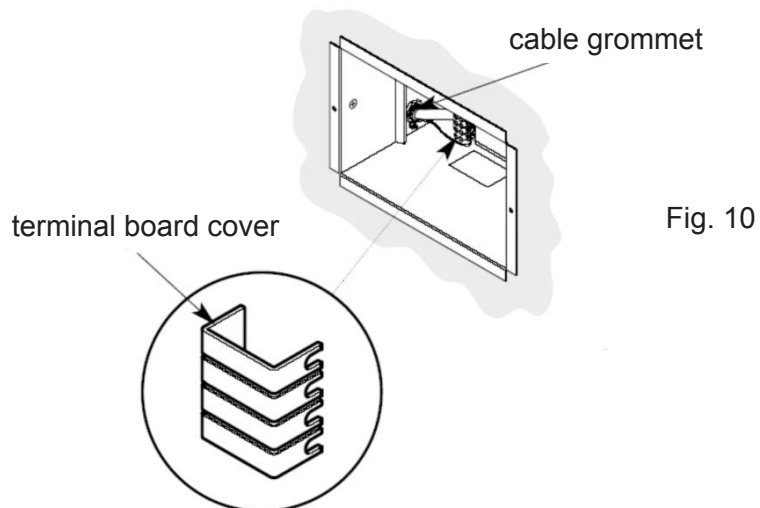

Fig. 10
4. Remove the terminal board cover (Fig. 10) and connect incoming wires to the appropriate terminals, see the wiring diagram.
5. Replace the terminal board cover and fit the grommet (Fig. 10).